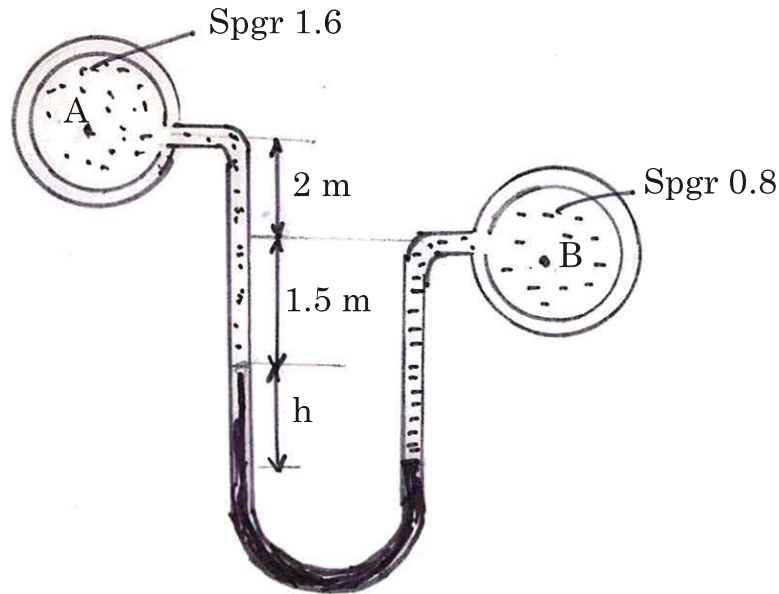

Fig. 1
- (c) A differential manometer is connected at two points A & B of two pipes as shown in Fig. 1. Pipe A contains liquid of specific gravity 1.6, while pipe B contains liquid of specific gravity 0.8. If the pressure at A & B are $11.80 \times 10^4 \text{ N/m}^2$ and